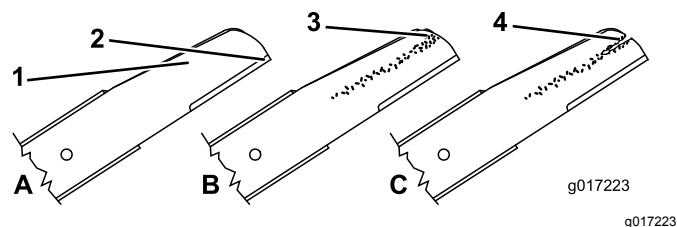

Figure 38
1. Inspect the cutting edges (Figure 38). If the edges are not sharp or have nicks, remove the blades and have them sharpened or replace them.
2. Inspect the blades themselves, especially the curved area (Figure 38). If you notice any damage, wear, or a slot forming in this area, immediately replace them with new blades.